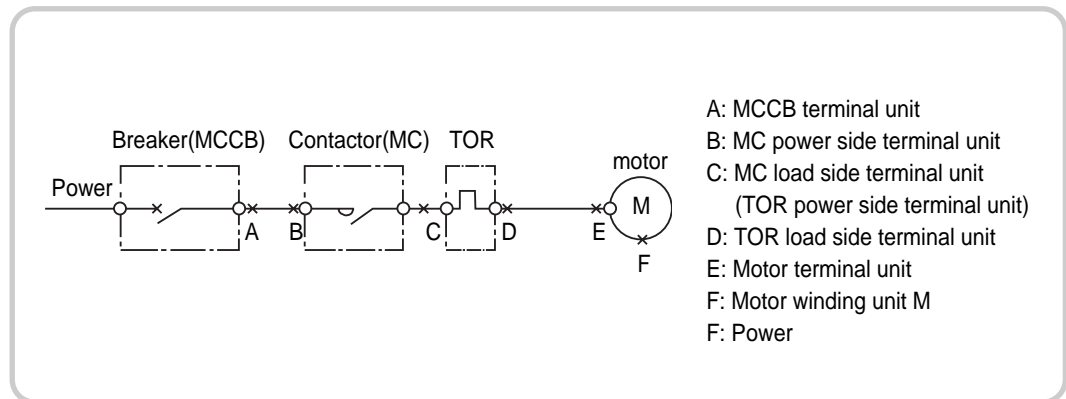

Fig. 70. Branchcircuit's short circuit points
In an MCCB which has a motor with a load and branch circuit with a magnetic switch, short circuit points related with this breaker are the six spots A through F in fig. 70 and since all other points have almost no possibility of a short circuit fault, they are not considered. Therefore short circuit faults on each point are investigated as below. At first, KSC and IEC standards' protection cooperation type as protection cooperation degree (p233) was introduced but if there is short circuit fault on C or D point of fig. 70, the short circuit current is big and permitted over current of Metasol series magnetic contactor is as shown on table 5. So generally protection cooperation type will be Type"1" and it is difficult to set it as Type"2". But when the short circuit point is on E or F of fig. 70, current decrease by wiring's impedance is quite big and the calculated result (higher impedance from D point is 0.) for wire length, 50m and 100m between D and E of fig. 70 is value shown on table 6. In fact, higher impedance is also added from D point so if there is short circuit to E point, the current which flows to magnetic switch gets smaller than the value on table 5. In this case, there is big possibility of having Type "2" as the cooperation type. If there is fault on F point, current gets smaller so the condition is better than E point.
Based on Metasol series magnetic contactor's permitted over current (the value in the case of no current limit of short circuit current with MCCB breaking time as 10ms), the calculated result of wire length which is needed to make protection cooperation Type "2" possible, is stated on table 5. This value is also calculated with higher impedance from D point as 0, so actual wire length will become a little shorter than this. Even when the length of wire is short, it is relatively easy to make possible up to certain length by methods as (1) enlarge magnetic contactor's size, (2) use MCCB with current limit effect, etc. over current resistant quantity is stated on table 4 but except small quantity rated heater, generally coordination Type "2" is relatively easily satisfied. In the case of a short circuit fault on A or B point of fig. 70, if the MCCB's breaking capacity is sufficient, there is no problem.
As investigated above, if each selection is correct, coordination of Metasol series MCCB and magnetic switch is relatively easily satisfies 1~8 details of coordination conditions (p195). But during the event of a disconnection fault, it becomes about type "2" of KSC and IEC standards coordination for short circuit on E or F point of Fig. 70 or type "1" for short circuit on C or D point. Depending on short circuit protection device, it is possible to have type "2" of coordination type even with short circuit fault of point C or D. But point C or D's short circuit occurs in magnetic contactor or TOR's terminal unit so it is impossible to avoid insulation deterioration between terminals and terminal's burnout. Eventually a magnetic switch needs to be exchanged so even with type "2" of coordination type, it should be regarded as having fewer advantages. So for coordination type during short circuit, type "2" is proper in the case of short circuit on E or F point and type "1" for short circuit on C or D point. If you interpret that 9th detail of coordination conditions (p195) is applied to the short circuit case on E or F point, as stated above, it can be said that combination of Metasol series MCCB and Metasol magnetic switch can be satisfied at certain level.